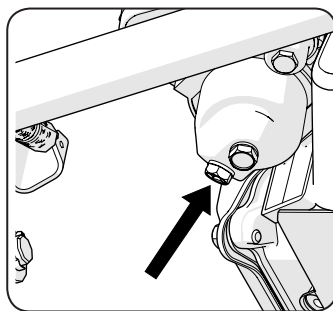

Fig 26
- A drain plug can be found underneath the carburettor float bowl. **(Fig. 26)**